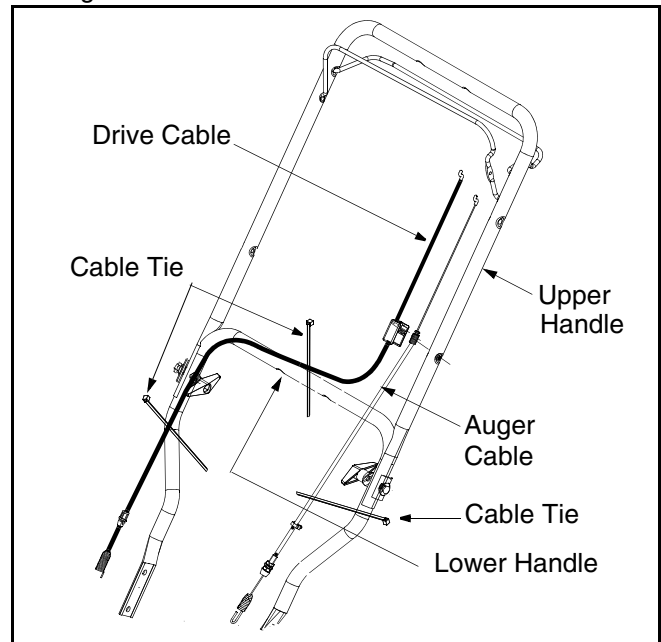

Figure 5
- Three cable ties have been used to loosely tie the two control cables to the lower handle. Two of these cable ties are on each arm, and third on the top cross bar of the lower handle. Tighten these cable ties to secure the cable to the lower handle. See Figure 5.